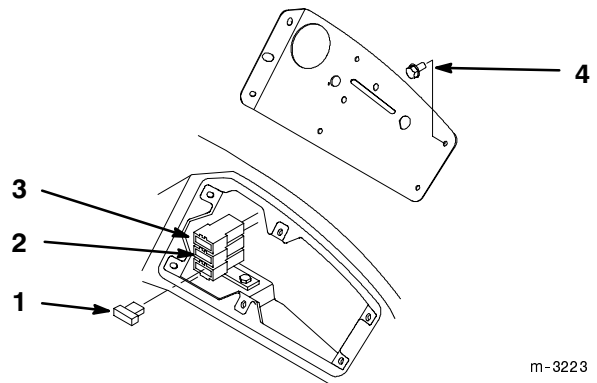

Figure 87
1. Remove dash panel screws to gain access to fuse holder (Fig. 87).
2. To replace fuses pull out on the fuse to remove it (Fig. 87).